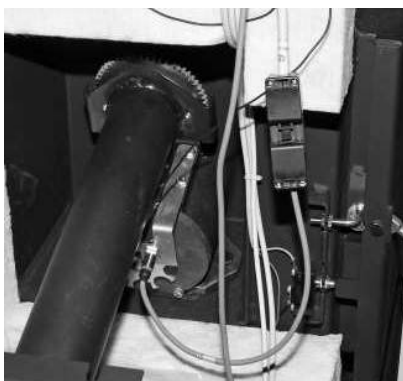

Fig. 22 Connecting 3-pin plug for proximity switch
- Connect 3-pin plug for rotary feeder proximity switch – Fig. 22.